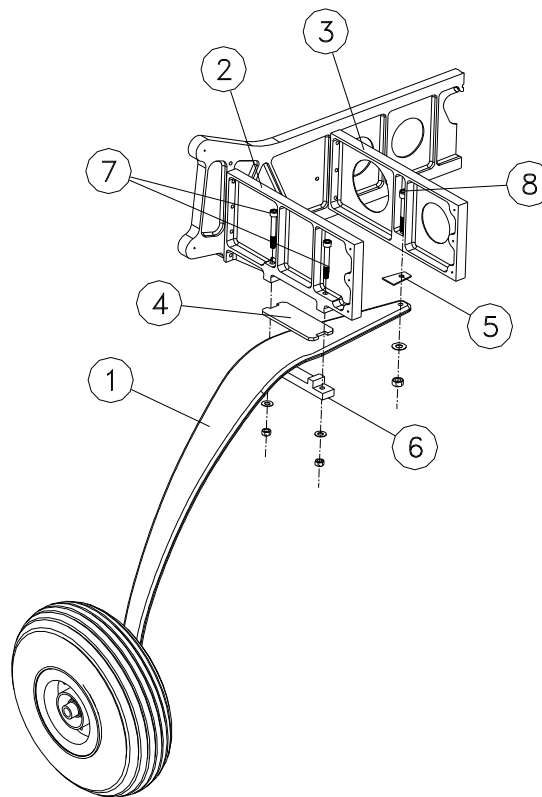

FIGURE C-13 MAIN LANDING GEAR
The main landing gear (see fig. C-13) consists of two special steel spring-leaf struts (1) positioned crossways to fuselage for elastic cushioning of landing loads.
- C. Disconnect each spring-leaf brake fluid line unscrewing the upper links from the Tee connection (6). Placing temporarily caps on lines to prevent spillage;
- D. Loosen the two external bolts and unfasten the aluminum tie (part.6 fig. C-13) that secure spring-leaf to the outer keelson.